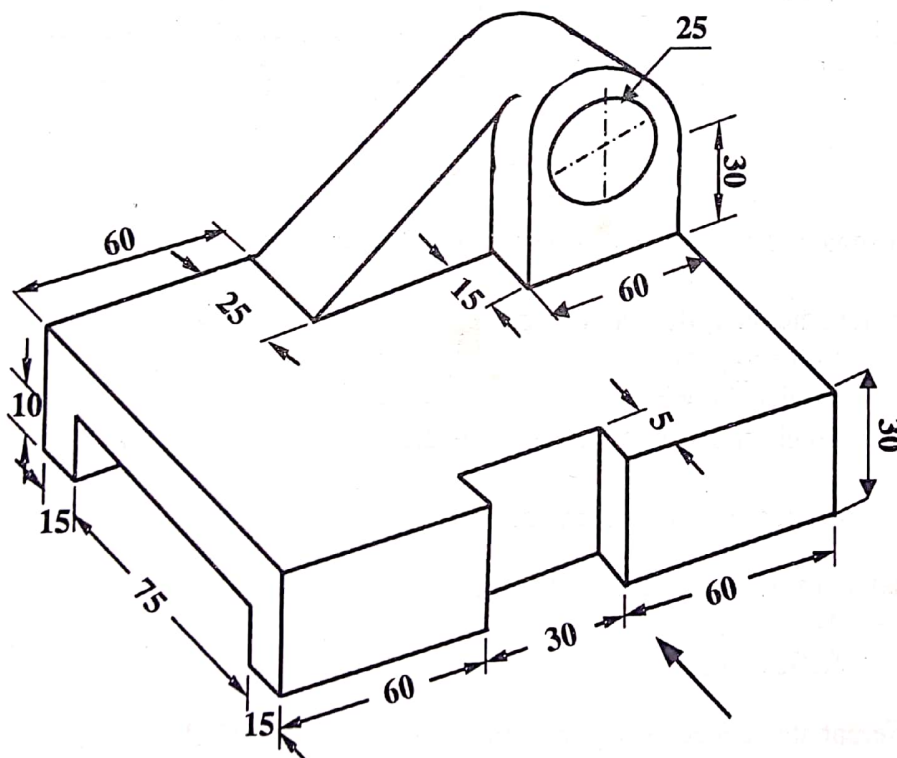

Figure 3
3. Figure 3 shows an object drawn in isometric projection. Sketch by free hand the following views in orthographic projection. Mark the dimension by a free hand.